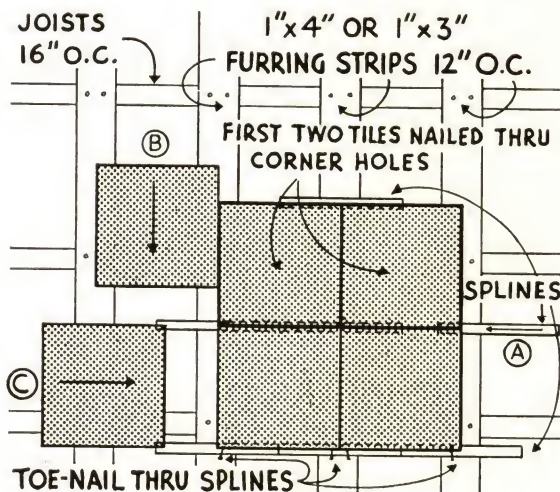

FIG. 2
6c (2). Alternate Methods of Applying. From this point various alternate methods of applying the tile may be used as shown in Fig. 2. A convenient method is to continue the first row of tile from the two starting tiles, applying this starting row across the furring strips from wall to wall by the method shown at B, Fig. 2. Splines may also be inserted in the tile in place as shown at A, Fig. 2 and the next tile then inserted between these splines from the ends as shown at C, Fig. 2. Toe-nail through the splines and the tile into the furring strips as tile are added, setting the nail heads. Exercise care not to mar the surface or bevels of the tile. Use two nails per 12"x12" tile and three or four nails per 12"x24" driven through the splines. Where the 24"x24" tile are used drive three or four nails through the spline plus additional small-headed (or collar) nails in the holes on not over 12" centers.